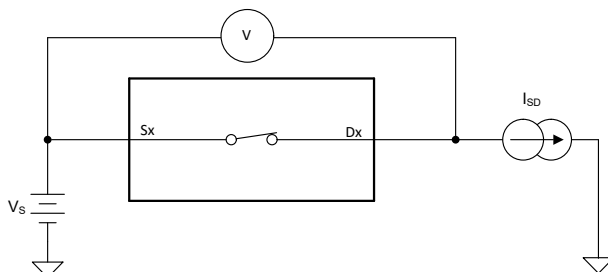

图 6-1. On-Resistance Measurement Setup
The on-resistance of a device is the ohmic resistance between the source (Sx) and drain (D) pins of the device. The on-resistance varies with input voltage and supply voltage. The symbol R_{ON} is used to denote on-resistance. 图 6-1 shows the measurement setup used to measure R_{ON} . Voltage (V) and current (I_{SD}) are measured using this setup, and R_{ON} is computed with $R_{ON} = V / I_{SD}$.